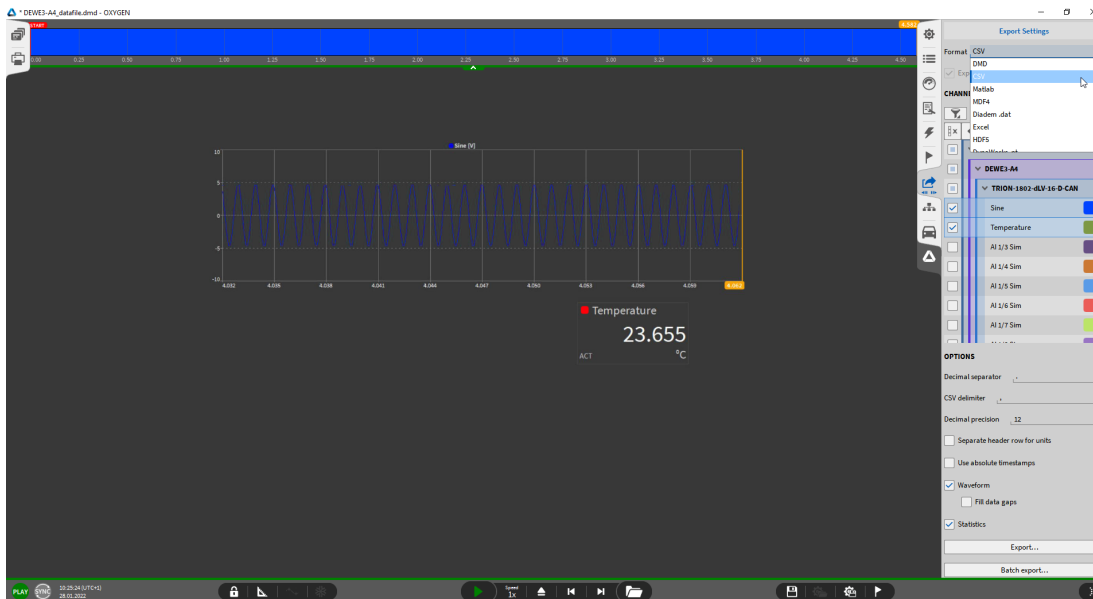

Fig. 25: Exporting data file for post-processing
The green border and PLAY indicator in the lower left corner indicate that a file is loaded for post-processing (see Fig. 25).
4. Click on the export button seen in Fig. 25.